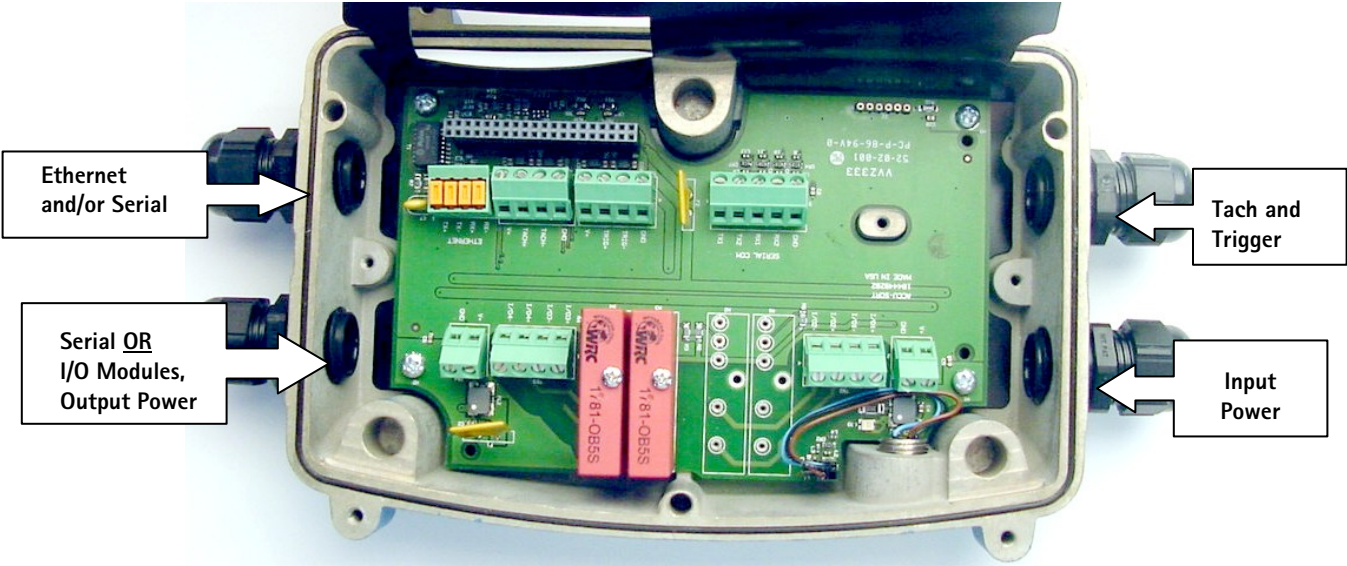

Figure 4-1: Recommended Cabling to Axiom Wiring Base
Use the four conduit openings for running wires into the base. Route your cabling for input/output power, tachometer, trigger, communications, and I/O, through the recommended conduit openings. (See Figure 4-1.)
Determine the wiring connections needed for your application. All permanent connections are made to the wiring base with either cables or through conduit. Wiring bases are shipped with four (4) cord grips and three (3) hole plugs. Be sure to follow Accu-Sort's wiring recommendations. (See *Figure 4-1 and Table 4-1.*)